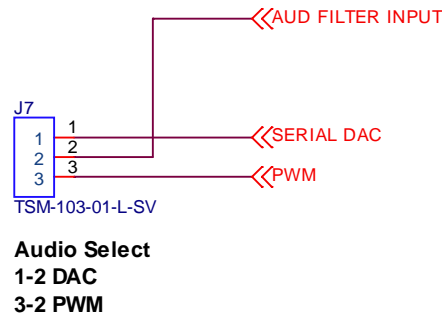

Figure 4-3. J7 Audio Output Source Jumper
- Jumper J7 - selects audio output source. See Figure 4-3 for connections